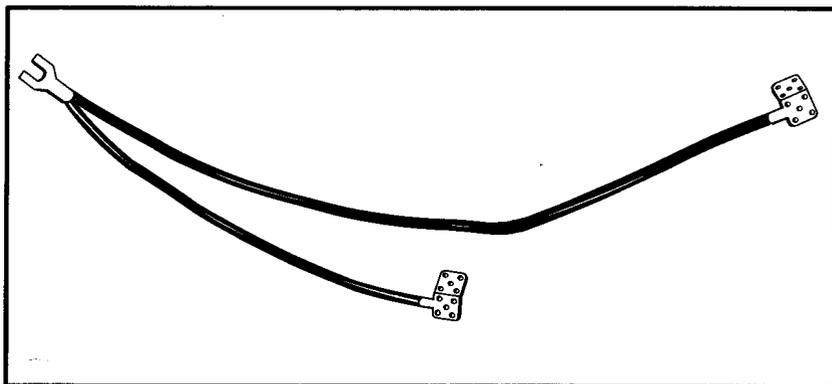

FIGURE 3. Type GH-3 Grounding Harness
3.03 Type GH-3: Used for interconnecting and grounding the shields of aerial cables where ready access type enclosures are used. Consists of two tinned Termi-foil connectors and a tinned spade clip, all crimped to a No. 14 AWG tinned stranded copper conductor insulated with green PVC. The spade clip is attached to the terminal frame by means of a terminal frame bolt. The spade clip to one Termi-foil is 7-1/2 inches long; the spade clip to the other Termi-foil is 21 inches long. See Figure 3.